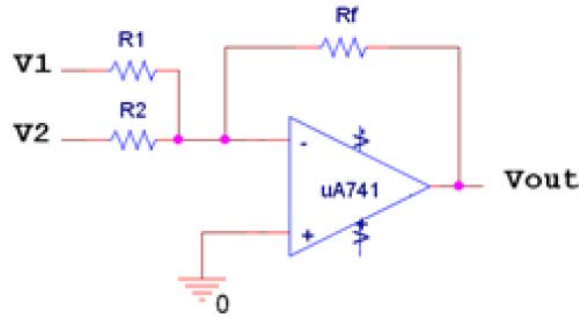

Figure D-1.
*Op-amp adders:* Figure D-1 below shows an *adder*. Its behavior is governed by the following equation: